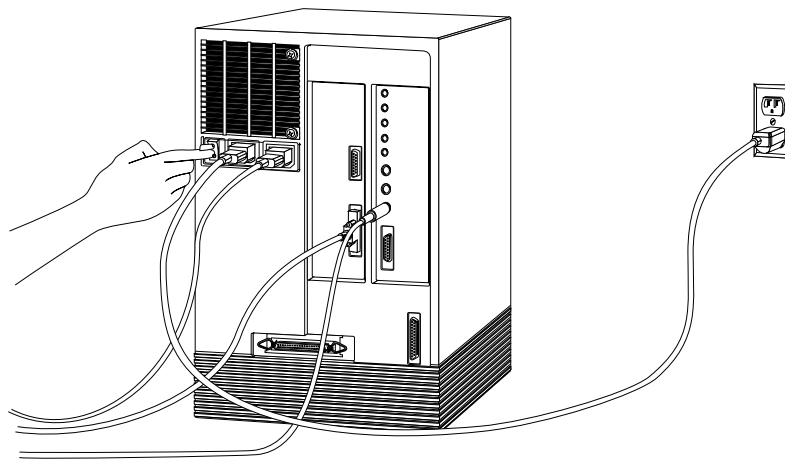

Figure 6-35 Turning off the Power Switch
- Turn off the power switch on the back of the workstation, as shown in Figure 6-35.